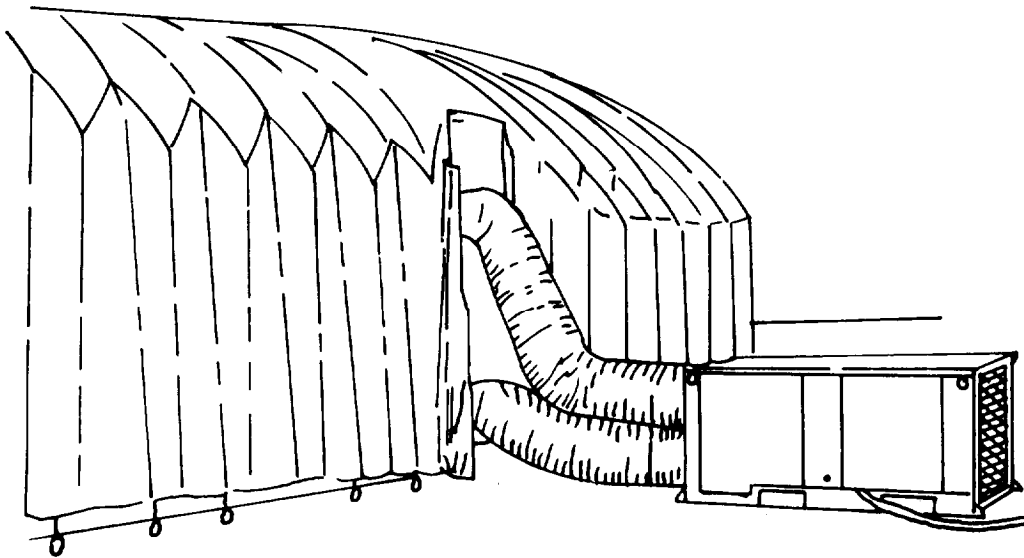

Figure 4-2. Air Conditioner Duct Attachment to Structure
a. General. The air conditioner is designed so that it is adaptable to a variety of installation arrangements. Most typical installations are made by preparing an opening in an exterior wall of the room or enclosure to be conditioned and positioning the air conditioner so that the ducts can be attached as shown in figure 4-2. The following are minimum requirements for all installations:
(9) Check that no source of dangerous or objectionable fumes are located near the fresh air intake.
(10) If possible make use of terrain features such as trees and buildings to provide a shaded location. This will minimize the cooling load on the air conditioner.
(11) If possible avoid locations where the condenser and fresh air intakes will be laden with dust, dirt, soot, smoke, or other debris.
b. Place the air conditioner approximately 6 to 7 feet from the structure to be cooled with front of unit (figure 4-2) pointing toward the building. Position the air conditioner for duct attachment free of kinks or sharp bends to allow unobstructed passage through air delivery and air return ducts.
(7) Repeat steps (3) through (6) as necessary to attach the 9-foot flexible ducts (supply) to the structure that will receive the conditioned air. Figure 4-2 shows an air conditioner properly connected to a structure.